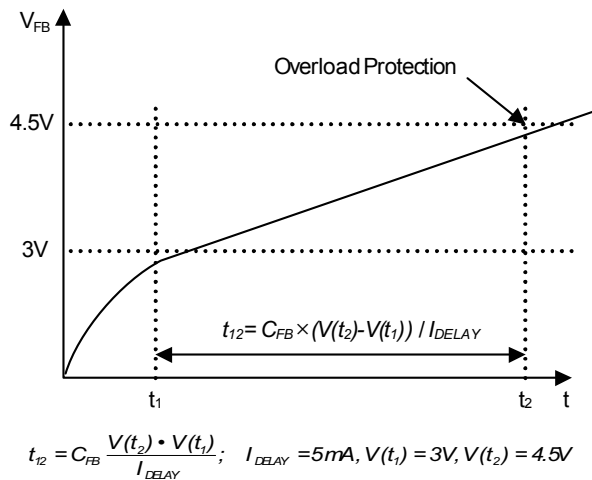

Figure 18. Overload Protection (OLP)
4.1 Overload Protection (OLP): Overload is defined as the load current exceeding a pre-set level due to an unexpected event. In this situation, the protection circuit should be activated to protect the SMPS. However, even when the SMPS is operating normally, the overload protection (OLP) circuit can be activated during the load transition. To avoid this undesired operation, the OLP circuit is designed to be activated after a specified time to determine whether it is a transient situation or an overload situation. If the output consumes more than the maximum power determined by I_{LIM} , the output voltage (V_O) decreases below its rating voltage. This reduces the current through the opto-coupler LED, which also reduces the opto-coupler transistor current, thus increasing the feedback voltage (V_{FB}). If V_{FB} exceeds 3V, the feedback input diode is blocked and the 5μA current source (I_{DELAY}) starts to charge C_{FB} slowly up to V_{CC} . In this condition, V_{FB} increases until it reaches 4.5V, when the switching operation is terminated, as shown in Figure 18. Shutdown delay is the time required to charge C_{FB} from 3V to 4.5V with 5μA current source.